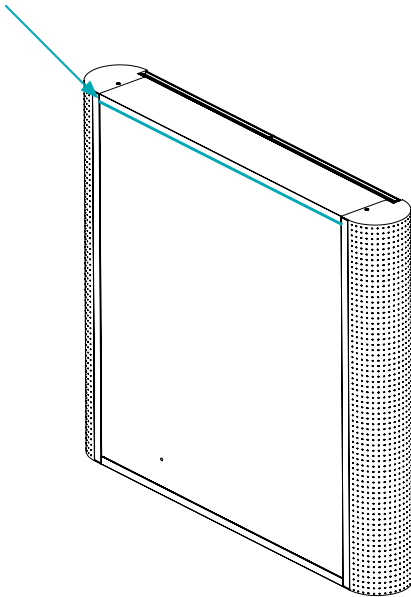

Fig 3. - Mounting Point
7. Temporarily hang the cabinet on the brackets, *see Fig. 3*, to mark the position of the internal fixing hole, then remove the cabinet. Using a suitable drill bit, drill a hole and insert a wall plug as per stage 3.